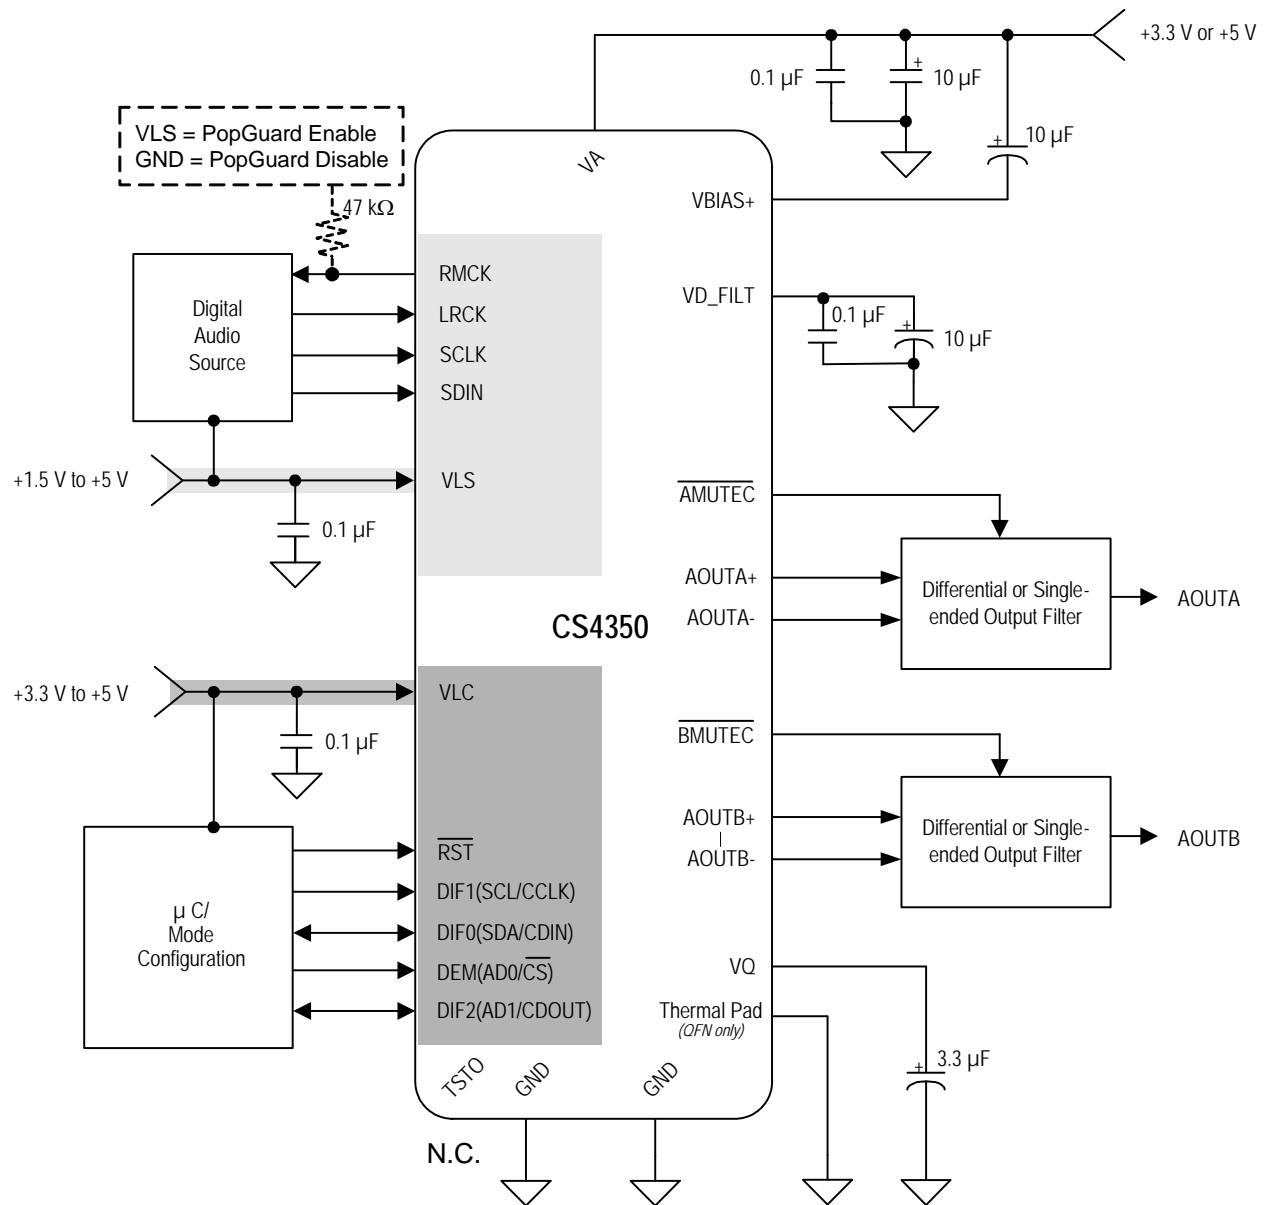

Figure 10. Typical Connection Diagram
21. Valid with the recommended capacitor values on VFILT, VQ, and VBIAS+ as shown in the typical connection diagram in Figure 10.
As with any high-resolution converter, the CS4350 requires careful attention to power supply and grounding arrangements if its potential performance is to be realized. Figure 10 shows the recommended power arrangements, with VA, VLC, and VLS connected to clean supplies. The use of split analog and digital ground planes is not recommended. However, if planes are split between digital ground and analog ground the GND pins of the CS4350 should be connected to the analog ground plane.